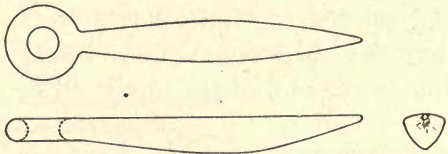

FIG. 193.—SHAPE OF HOOK BEFORE BENDING.
4. Shaping the hook. — The hook should be shaped complete before being bent. Figure 193
The end view in Fig. 193 shows the best way to taper the iron towards the back.